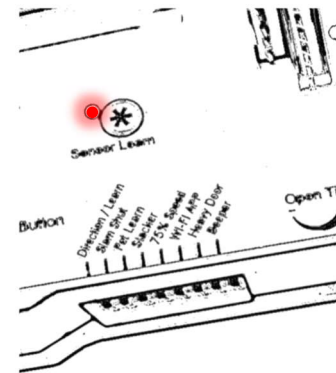

Figure 60: The Sensor Learn LED should turn red.
3. To pair a button to the Autoslide, press and release the "Sensor Learn" button on the Autoslide control panel. A red light should illuminate next to the button once released (Figure 60).